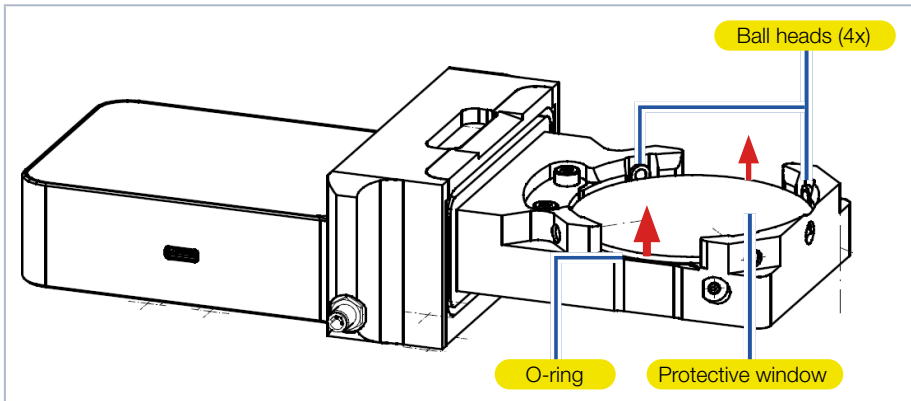

Fig. 10.1: Exchanging the protective window
2. Place the device as shown in Fig. 10.1 on page 50.